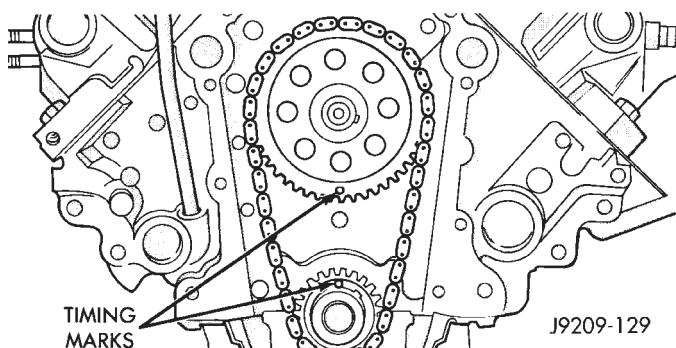

Fig. 5 Alignment of Timing Marks
(6) Place both camshaft sprocket and crankshaft sprocket on the bench with timing marks on exact imaginary center line through both camshaft and crankshaft bores.
(7) Place timing chain around both sprockets.
(8) Turn crankshaft and camshaft to line up with keyway location in crankshaft sprocket and in camshaft sprocket.
(9) Lift sprockets and chain (keep sprockets tight against the chain in position as described).
(10) Slide both sprockets evenly over their respective shafts and use a straightedge to check alignment of timing marks (Fig. 5).